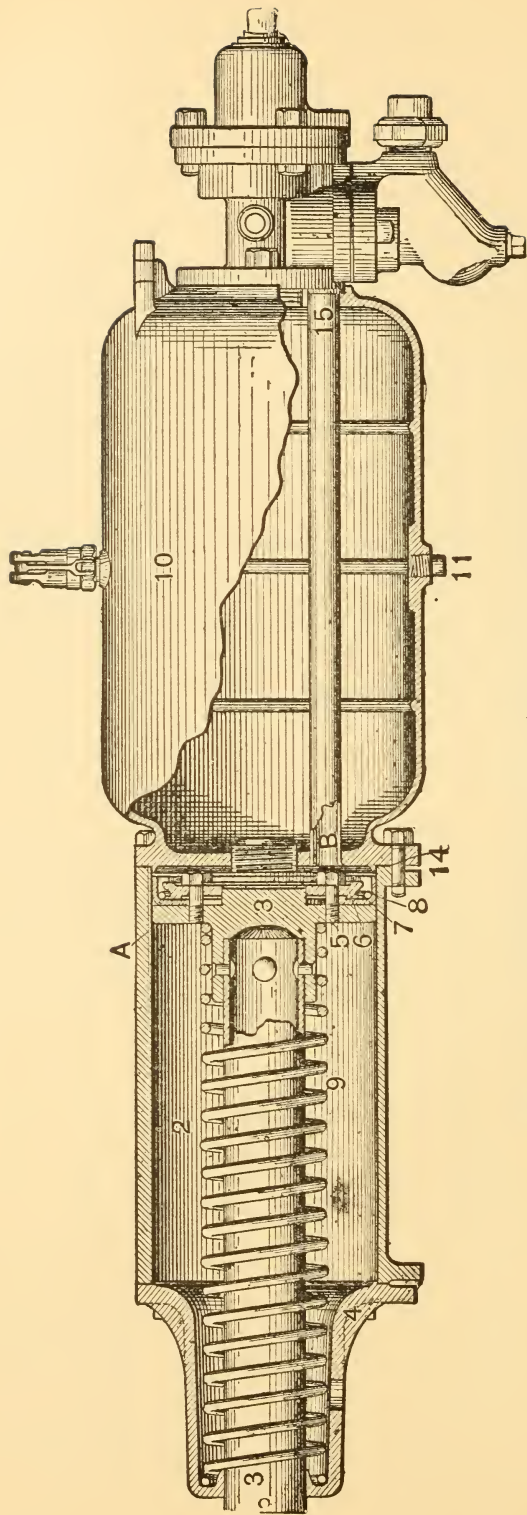

FIG. 11.—WESTINGHOUSE FREIGHT EQUIPMENT.
A. 3 (Fig. 11) is the piston sleeve and head, 9 the release spring, 4 the front cylinder head, 2 the cylinder body, A the leakage groove, 7 the packing leather, 8 the expander ring, 6 the follower plate which holds the packing leather 7 to its place, B the pipe connecting the triple valve and brake cylinder, and 15 the gasket which makes a tight joint between the auxiliary, triple, and pipe B leading to the brake cylinder.
Q. Explain the use of the release spring 9 (Fig. 11).
Q. What enters the sleeve 3 (Fig. 11)?
Q. Of what use is the leakage groove A (Fig. 11)?
Q. Of what use is the auxiliary 10 (Fig. 11)?
Q. Fig. 11 shows a standard equipment for freight cars; are they ever furnished in any other form?
A. Yes; the space limitation on some cars forbids the use of the combined equipment illustrated in Fig. 11. In such cases, what is known as the detached equipment is used, and the brake cylinder and auxiliary reservoir are connected by a suitable pipe.